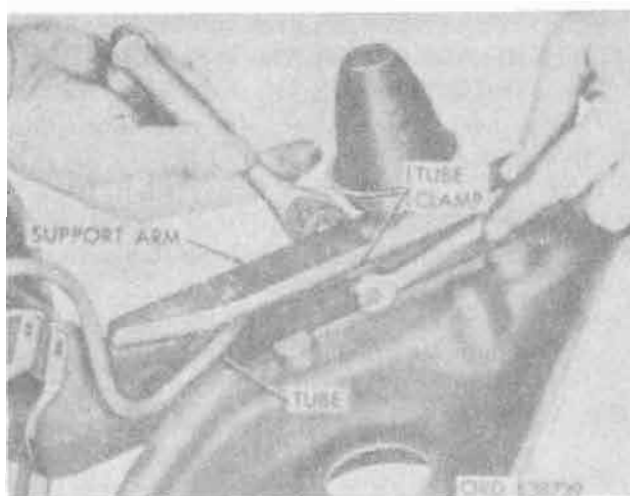

Figure 11-7. Rear brake tube and clamp (M151, M151A1, M151A1C and M718 vehicles).
a. Remove brake tube clamp and remove tube from support arm (figs. 11-7, 11-8).